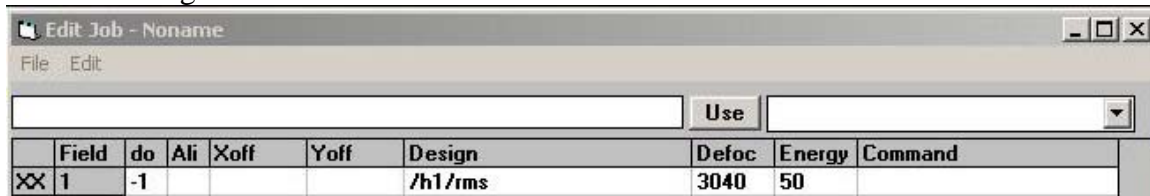

Figure 3-6: Example of first row filled out in Edit job window
- **DWL Menu Edit Job:** An example of the first complete row can be seen in figure 3-6.